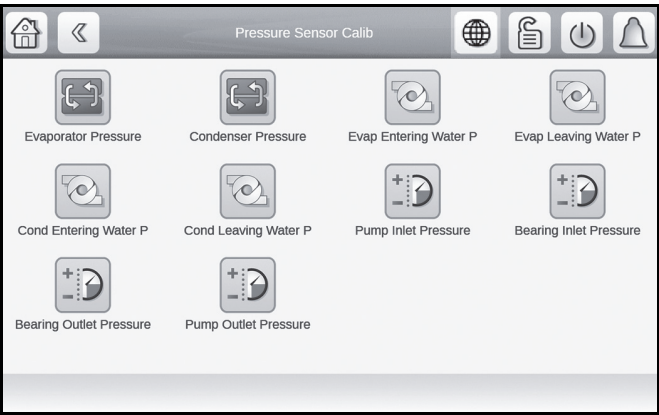

Fig. 33 — Pressure Sensor Calib Screen, Page 1
- 1. Go to *Main Menu* → *Maintenance Menu* → *Pressure Sensor Calib*. See Fig. 33.